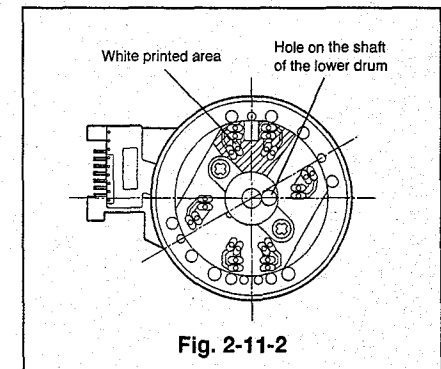

Fig. 2-11-2
- ① Attach the rotary transformer and the drum motor so that the terminals of both face in the same direction, and secure them with the screws (c, d and e). Secure the rotor case with the screws (a and b).
- ② Position the white painted (shaded) area of the upper drum so that the area is 90° apart from the hole of the lower drum shaft. Insert the upper drum. Take care not to touch the head terminals. [Fig. 2-11-2]
- ③ Secure the upper drum with the two fastening screws. (Tighten the screws alternately.)
- ④ Solder the terminals of each head.